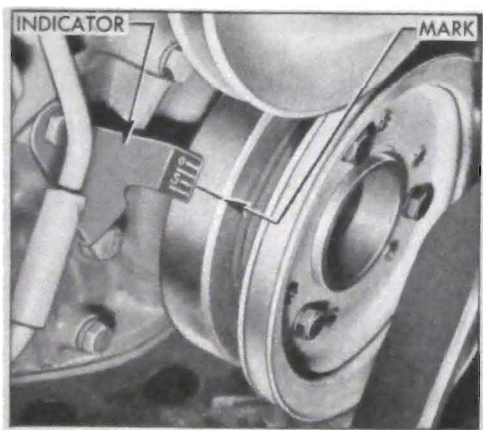

Figure 10-46—Ignition Timing Mark and Indicator
The timing mark is a groove filled with yellow paint, which is on the rear edge of the crankshaft pulley (Series 40) or the harmonic balancer (Series 50-60-70). A timing indicator, mounted on the timing chain cover, has four grooves filled with yellow paint. These grooves indicate U.D.C. (marked "0"), $2\frac{1}{2}$ degrees, 5 degrees (marked "5"), and $7\frac{1}{2}$ degrees before U.D.C. See figure 10-46.
2. Crank engine until distributor rotor is in position to fire No. 1 cylinder, and the yellow timing mark on crankshaft pulley or balancer is approximately aligned with the 5 degree mark on timing indicator. See figure 10-46.